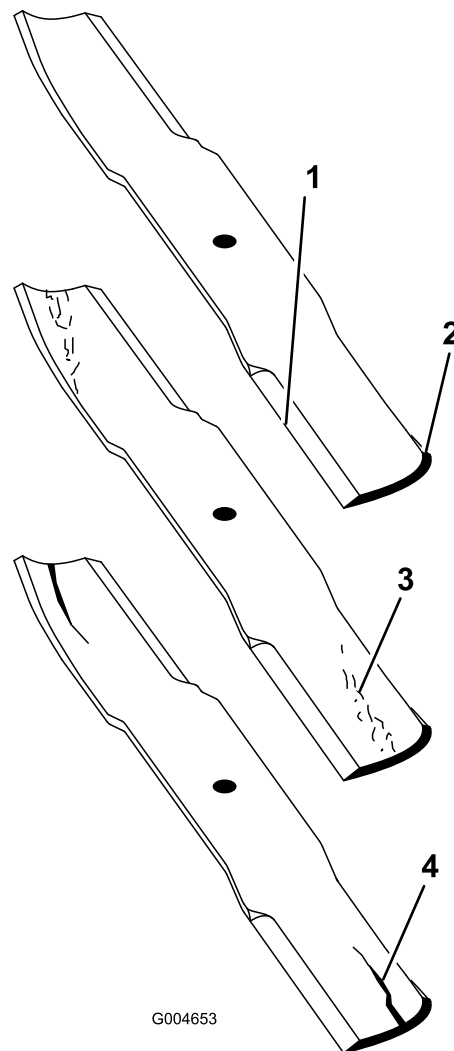

Figure 65
1. Inspect the cutting edges (Figure 65). If the edges are not sharp or have nicks, remove and sharpen the blades. Refer to Sharpening the Blades.
2. Inspect the blades, especially the sail area (Figure 65). If you notice any damage, wear, or a slot forming in this area (Figure 65), immediately install a new blade.